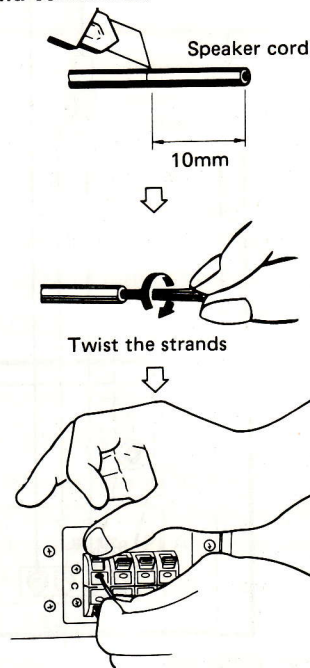

Fig. 1
## SPEAKER SYSTEM CONNECTIONS (Fig. 1)
1. Cut off the covering of the speaker cords as shown in Fig. 1.